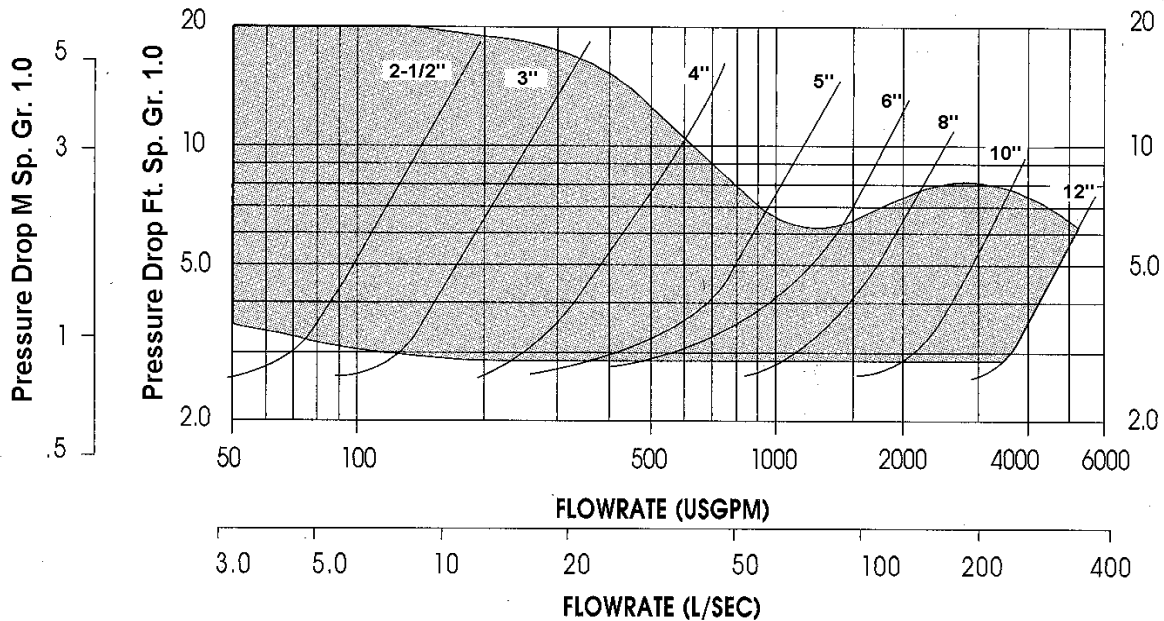

Figure 1
- 1 Minimum Flow Rate - To ensure sufficient flow to hold disc in full open position during operation, size valves in shaded area only of TDV Performance Curve Figure 1.